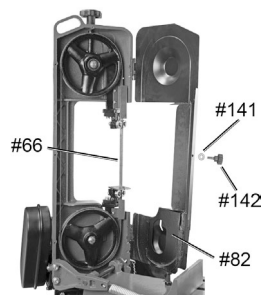

Fig. 10
3. Remove the Screw (#142) and Flat Washer (#141) to open the Blade Back Cover (#82 [Fig. 10])
3. Remove the Screw (#113) and Flat Washer (#114) to open the Blade Back Cover (#115 [Fig. 10]).